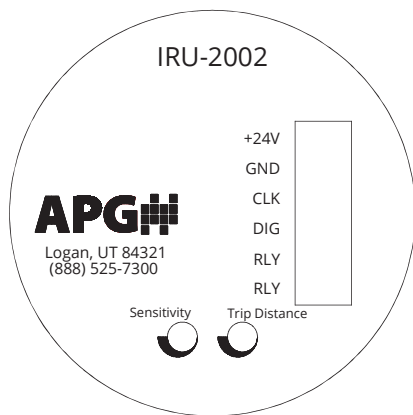
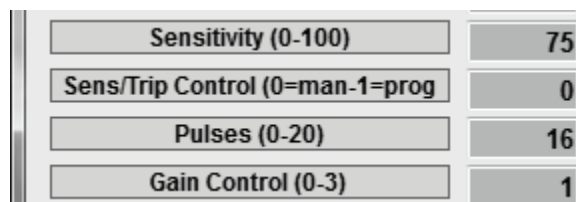

Figure 2.1
Figure 3.3
Potentiometers for setting or adjusting *Trip Distance* (IRU-2002 only) and *Sensitivity* (IRU-2002 and IRU-2003) are located inside the sensor housing along with terminal strips (See Figures 2.1 and 2.2). Both settings can also be controlled via the I2000SWR software (See Figure 3.3).
- For IRU-2002 and IRU-2003 sensors, sytem wiring must be connected to internal terminal strups prior to physical installation. (See Figures 2.1 and 2.2)
For IRU-2002 sensors, *Sensitivity/Trip Point Control* is used to select between potentiometer or software control of *Sensitivity* and *Relay Trip Point*. (See Figure 2.1)
4 mA Set Point sets the distance at which the output is 4 mA. This distance is measured from the Zero Point. See Figures 3.3 and 3.4.